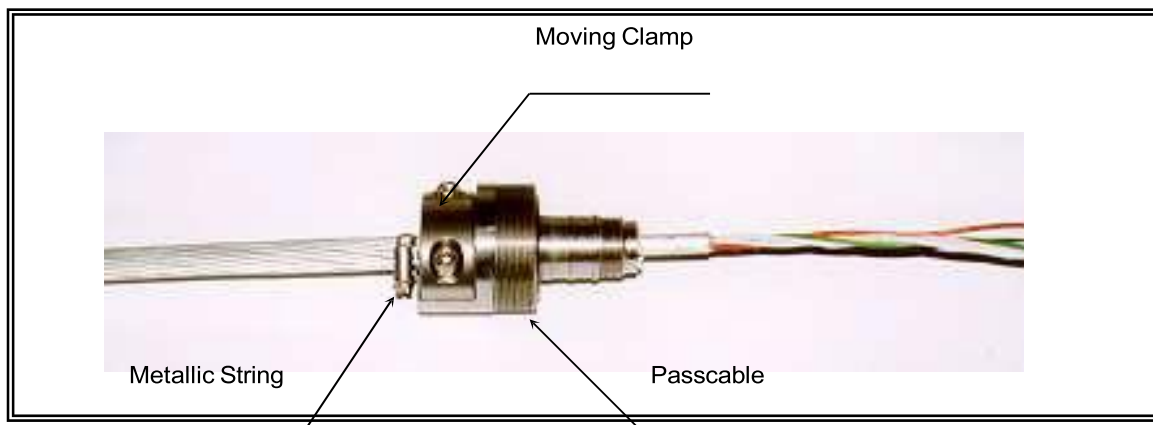

Fig. 5
- Lock the moving clamping with torque force of 12 NM, like Figure 5.
- Put the sleeve over the splice as shown in Fig. 5.